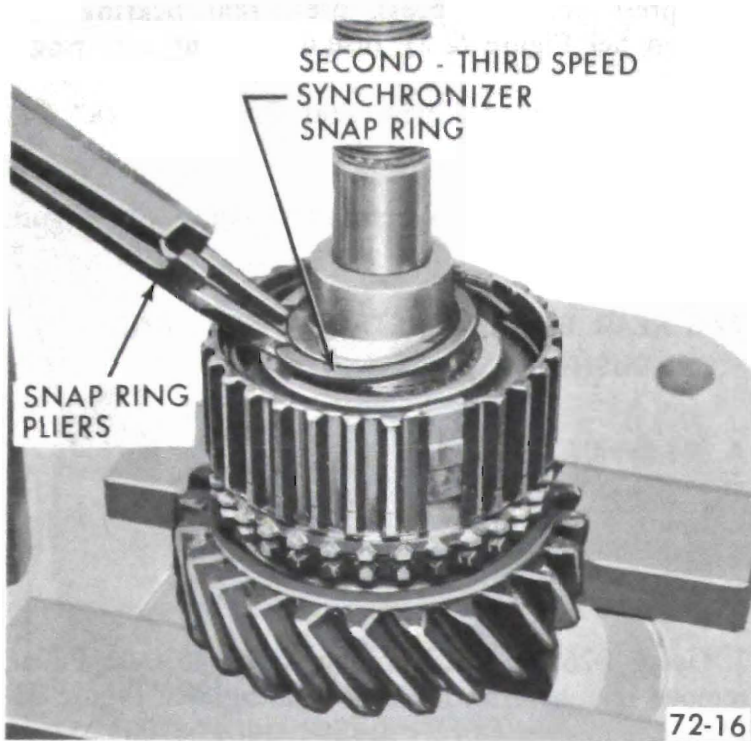

Figure 72-14 - Removing Second-Third Speed Synchronizer Snap Ring
7. Remove second-third speed synchronizer assembly snap ring. See Figure 72-14.